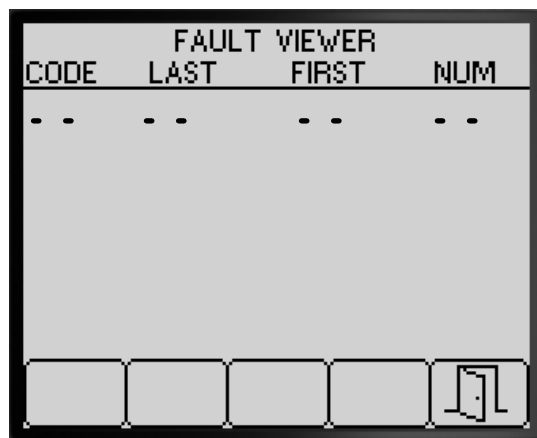

Figure 87
3. Review the fault viewer for sprayer system generated faults (Figure 87).
4. Press button 5 to exit the FAULT VIEWER screen, and return to the DIAGNOSTIC screen (Figure 87).
4. Press button 5 to exit the ABOUT screen, and return to the DIAGNOSTIC screen (Figure 87).